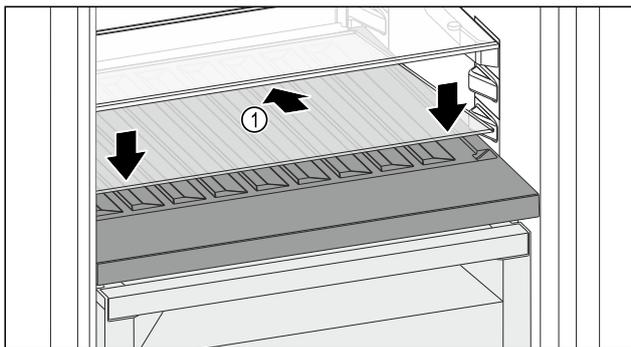

Fig. 116
- ▶ Place the glass shelf Fig. 116 (1) at an angle, sloping it downwards and backwards.
- ▶ Lower the glass shelf Fig. 116 (1) at the front.